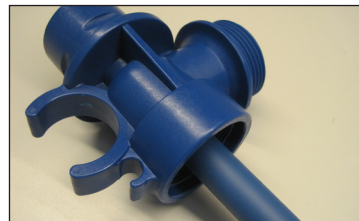

Figure 7 A & B
4. **Inner Tube & Center Support Removal** - To remove the inner tube and center support, turn the inner tube to unseat the o-rings (item 11) and then pull the inner tube away from the head. See *Figure 7 A & B*.